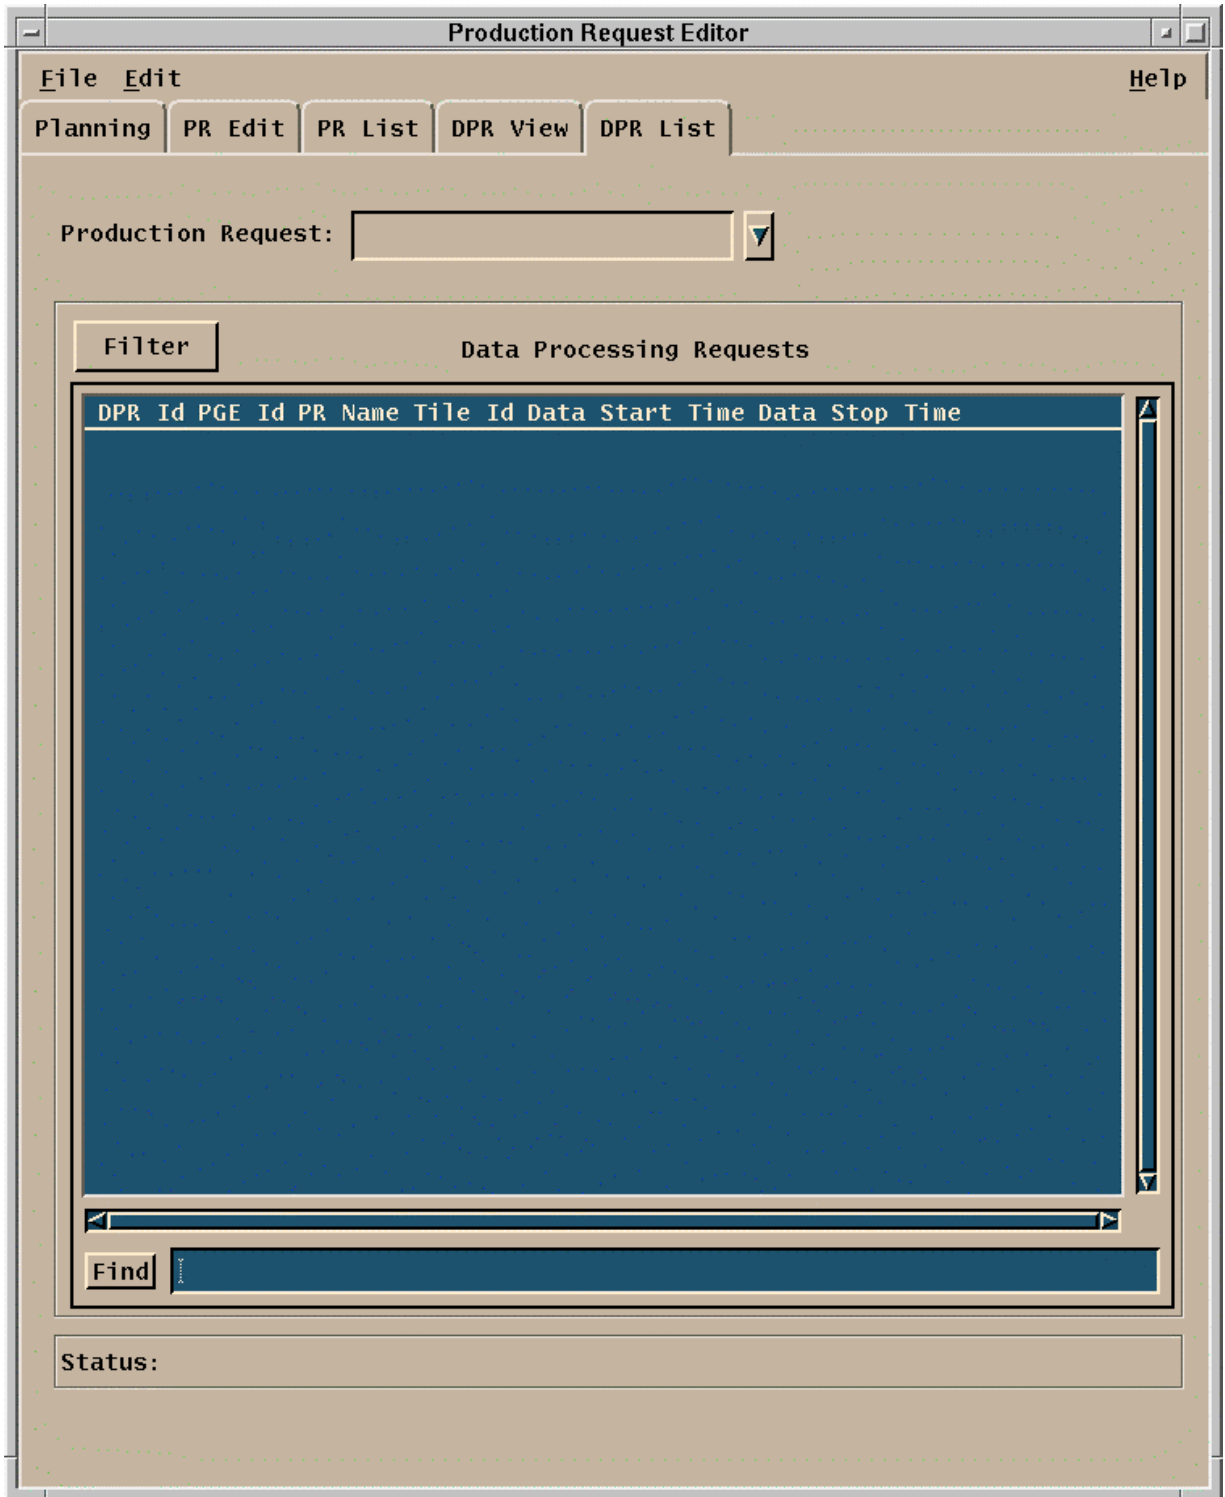

Figure 4.8.1-10. DPR List Tab
The **DPR List** tab, Figure 4.8.1-10 and the **DPR View** tab, Figure 4.8.1-11 have a lot of commonality. All the data displayed on the **DPR List** tab is included on **DPR View** tab. Also, the dropdown menus of both tabs have the same options.
DPRs are generated automatically from the PRs described above during Planning. The Production Request Editor GUI provides capabilities to review these DPRs. By selecting the '**DPR List**' tab, a list of DPRs is displayed (in the order in which they have been entered into the PDPS database) for review in the same manner in which PRs are selected and edited. The **DPR List** tab is depicted in Figure 4.8.1-10.
- **Open** - Allows the operator to select an existing DPR for review in the DPR View tab. In the **DPR View** tab (but not in the **DPR List** tab), this function uses the File Selection Popup (Figure 4.8.1-5).